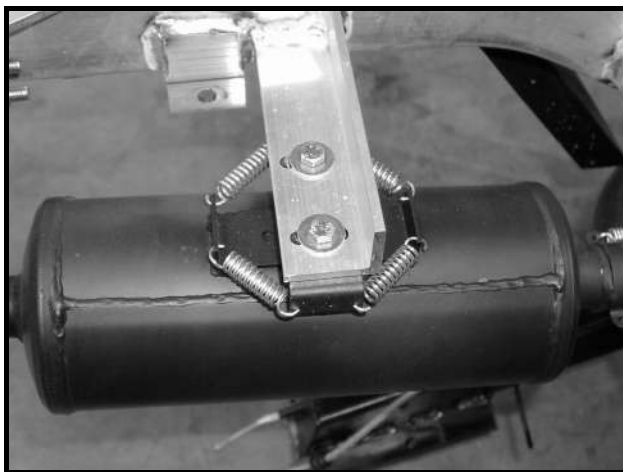

Figure 13a-3 Muffler and Bracket
1. Loosely secure the muffler and spring suspension bracket to the vehicle frame plate with two bolts and large flat washers (**Figure 13a-3, Page 13a-6**).